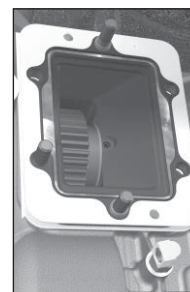

Figure 55a
6. Install the gasket supplied with the PTO over the studs and against the geared adapter (**Fig. 55a**).